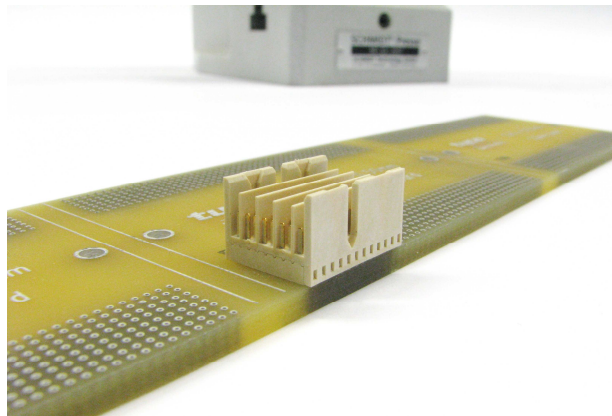

Figure 9
**5.** After that the insertion procedure is completed and the pc-board with the pressed-in male connector may be removed (see figure 9).